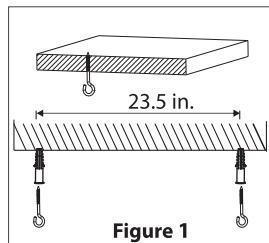

Figure 1
1. Install provided screw-hooks directly onto ceiling. Spacing between screws should be 23.5 inches (See Figure A). For concrete ceilings/drywalls, wall anchors are required. Drill two holes for provided wall anchors then use provided screw hooks (See Figure 1).